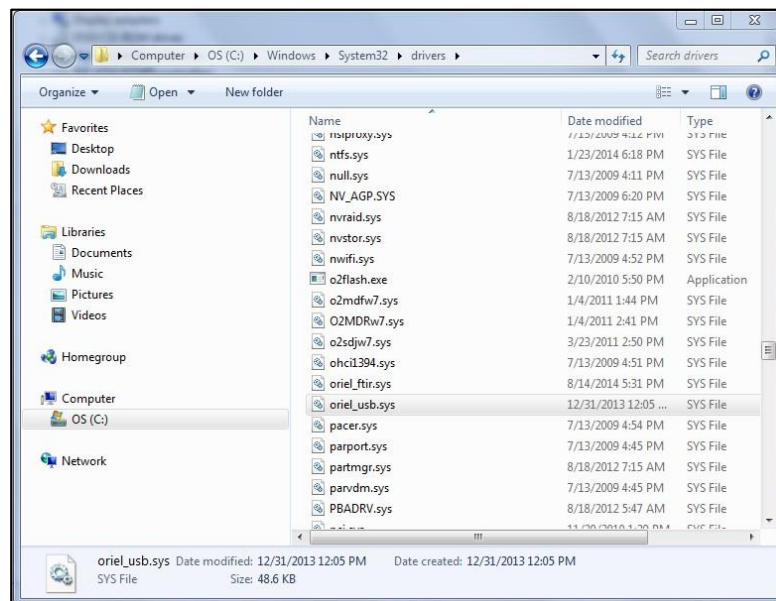

Figure 21: C:\Windows\System32\drivers.
- In Windows Explorer, navigate to the following directory: C:\Windows\System32\drivers (Fig. 21). Delete the file named “oriel\_usb.sys.”